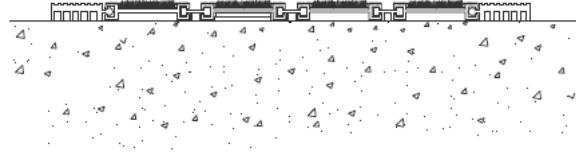

Figure 6
**STEP 9.** Restore the mat to its proper installed position. Compress the lockdown area of the mat to engage the lockdown strips with one another (see Figure 6).